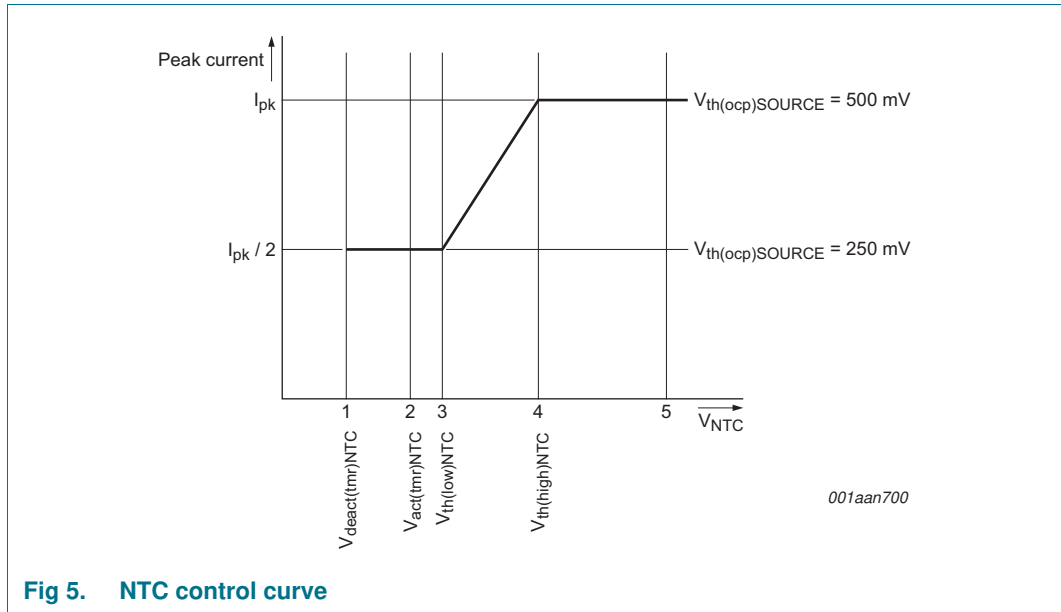

Fig 5. NTC control curve
The NTC pin can be used as a control method for LED thermal protection. Alternatively, the pin can be used as an input to disable/enable light output using a digital signal (PWM current regulation). The pin has an internal current source that generates the current of $I_{\text{offset}(\text{NTC})}$. An NTC resistor to monitor the LED temperature can be directly connected to the NTC pin. Depending on the resistance value and the corresponding voltage on the NTC pin, the converter reacts as shown in Figure 5.
When the voltage on the NTC pin is higher than $V_{th(high)NTC}$ see Figure 5 (4), the converter delivers nominal output current. When the voltage is lower than this level, the peak current is gradually reduced until $V_{th(low)NTC}$ is reached, see Figure 5 (3). The peak current is now half the peak current of nominal operation. When $V_{act(tmr)NTC}$ is passed, see Figure 5 (2) a timer starts to run to distinguish between the following situations:
- If the low-level $V_{deact(tmr)NTC}$ is not reached within time $t_{to(deact)NTC}$, Figure 5 (1) LED overtemperature is detected. The IC stops switching and attempts to restart from the HV pin voltage. Restart takes place when the voltage on NTC pin is higher than $V_{th(high)NTC}$, see Figure 5 (4). It is assumed that the reduction in peak current did not result in a lower NTC temperature and LED OTP is activated.
- If the low-level $V_{deact(tmr)NTC}$ is reached within the time $t_{to(deact)NTC}$, Figure 5 (1) it is assumed that the pin is pulled down externally. The restart function is not triggered. Instead, the output current is reduced to zero. PWM current regulation can be implemented this way. The output current rises again when the voltage is higher than $V_{deact(tmr)NTC}$.
The NTC pin can be used to make a soft start function. During switch-on, the level on the NTC pin is low. By connecting a capacitor (in parallel with the NTC resistor), a time constant can be defined. The time constant causes the level on the NTC pin to increase slowly. When passing level $V_{th(low)NTC}$ Figure 5 (3), the convertor starts with half of the maximum current. The output current slowly increases to maximum when $V_{th(high)NTC}$ Figure 5 (4) is reached.